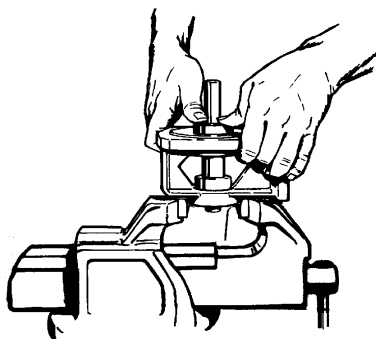

Figure 4-24
- Place the pedestal, pump mounting surface up, in a vise or suitable fixture and insert the bearing assembly. It should be possible to install the shaft assembly with firm thumb pressure. Refer to Figure 4-24. If more force is required, the butt end of a hammer handle or plastic mallet may be helpful. The shaft assembly should never be forced or driven in.